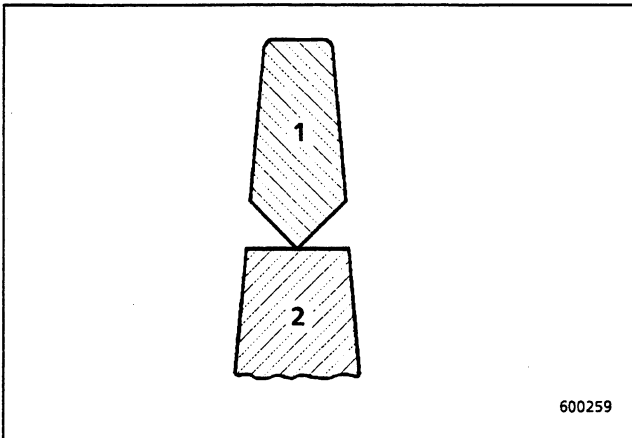

Fig. 38
- Attach replacing part (fig. 38).